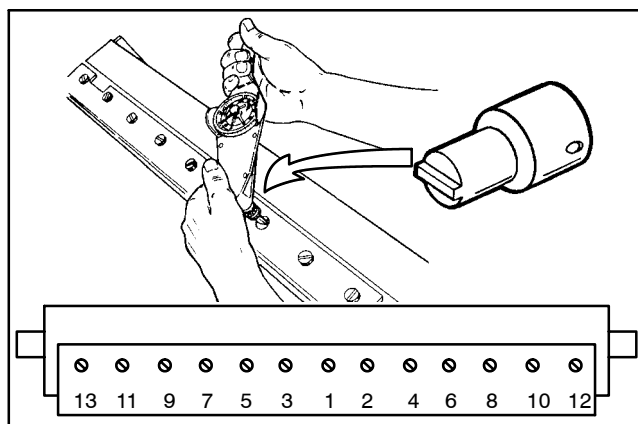

Figure 16
2. Using a torque wrench and bedknife screw tool, tighten screws to a torque of **200 to 250 in-lbs. (22 to 28 Nm)**. Use a torquing pattern working from the center toward each end of the bedknife (Fig. 16).